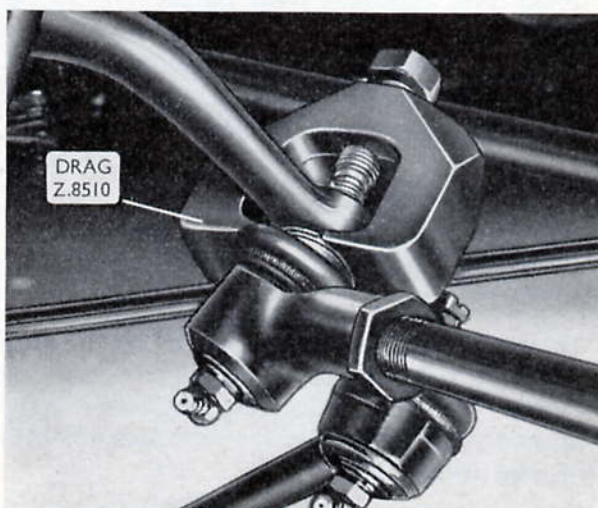

Fig. M.4. Drag positioned prior to disconnecting the steering connecting rod from the relay lever
2. Using the drag shown in Fig. M.4 disconnect the joint from the appropriate steering arm and/or relay lever and withdraw the rod.
connecting rod from the relay lever (Fig. M.4).
2. Disconnect the tie rod and the steering connecting rod from the relay lever as shown in Fig. M.4.